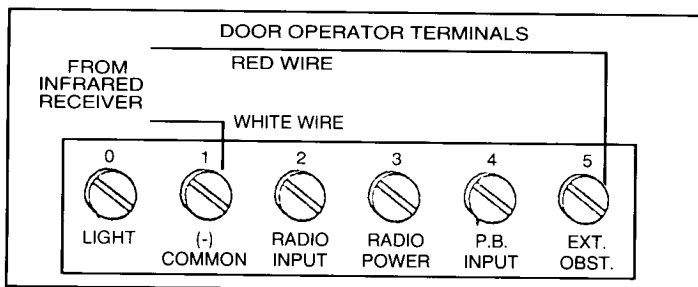

Figure 25
Step 47: Run the red striped two-conductor "DoorSentry" wire from the detector up the side of the door opening and over to the channel. Run the wire across the top of the channel to the operator terminals marked "Common" and "Ext. Obst." (see Figure 25). Attach the three (3) adhesive squares provided to each end and the center of the top side of the channel assembly. Place wire under adhesive square to hold wire away from any moving parts of channel or door.